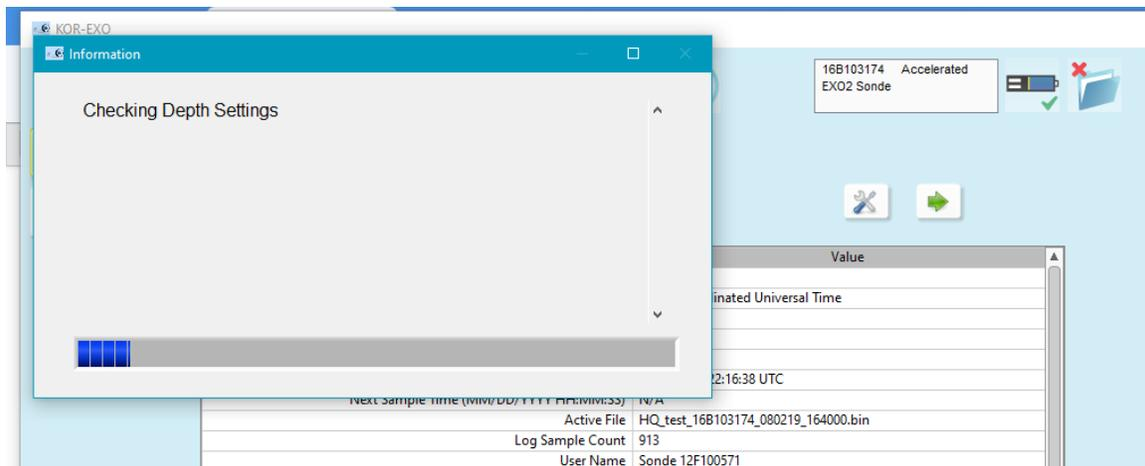

Figure 7. Loading Deployment Settings
- The Multisonde loads the template and verifies the sensor settings (Figure 7). If you encounter a dialogue box requesting confirmation on the settings and to continue with the deployment, click "Continue".